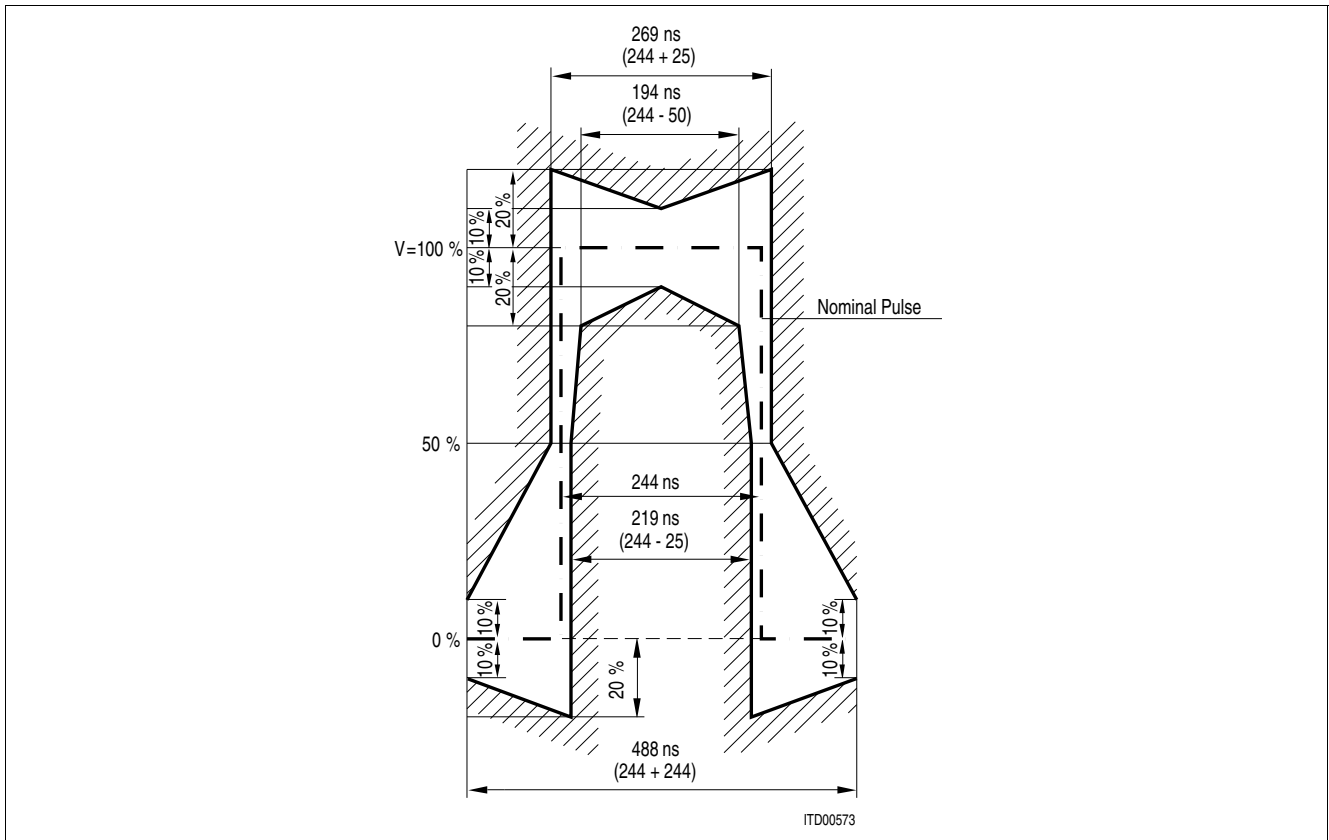

Figure 63 E1 Pulse Shape at Transmitter Output
- For E1: ITU-T G703 11/2001, figure 15 (for 0 m cable length), see Figure 63; ITU-T G703 11/2001, figure 20 (for DCIM mode). For measurement configuration were  $R_{load} = 120 \Omega$  or  $R_{load} = 75 \Omega$  see Figure 39.
With the given values in Table 30 or Table 32, for transformer ratio: 1 : 2.4, cable type AWG24 and with  $R_{load} = 120 \Omega$  the pulse mask according to ITU-T G703 11/2001, see Figure 63, is fulfilled.